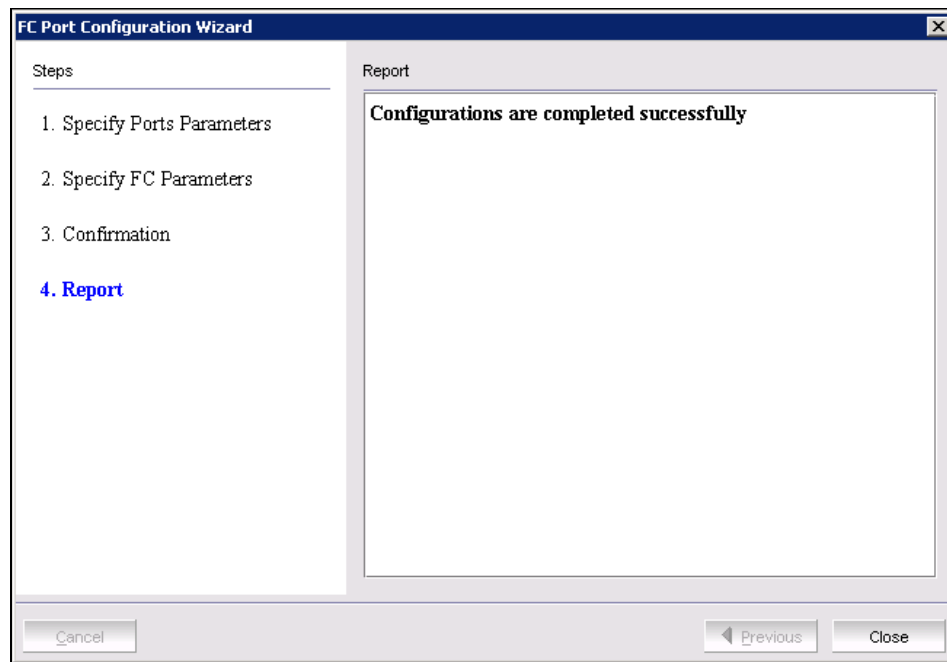

Figure 8-57 FC Port Configuration Wizard Success
6. Review the configuration changes and click **Save** to complete the port configuration. You are presented with a success page, as shown in Figure 8-57. Click **Close**.